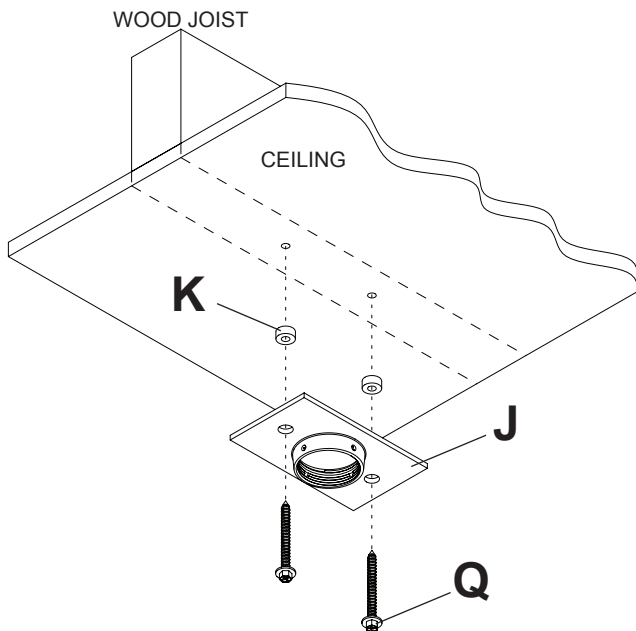

**fig. 1.1**
**1** Drill two 5/32" (4 mm) dia. holes to a minimum depth of 2.5" (64 mm). Attach ceiling plate (J) to ceiling with two #14 x 2.5" wood screws (Q) using 3/8" (10 mm) socket wrench as shown in figure 1.1.